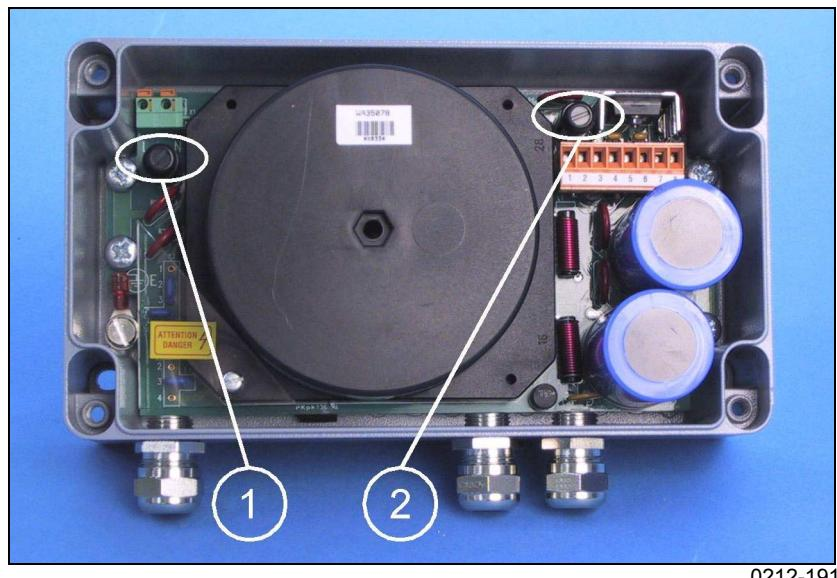

Figure 10 Location of the Fuses F1 and F2
3. Refer to Figure 10 below for the location of the replaceable fuses.
The following numbers refer to Figure 10 above.